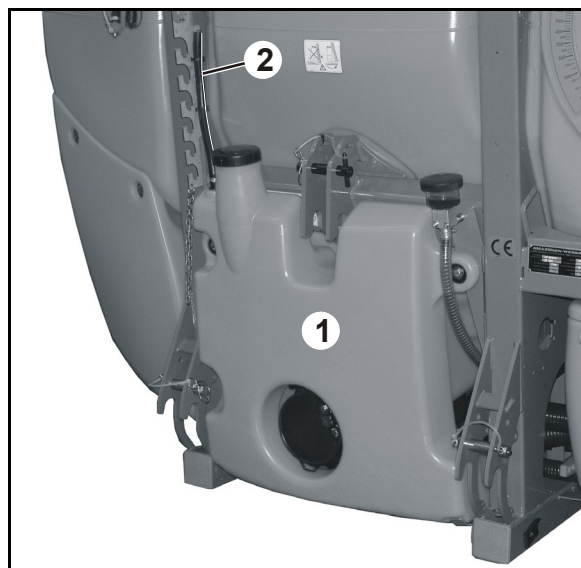

Fig. 17
3. On the control terminal, move the switch taps to the specified position (Fig. 17):